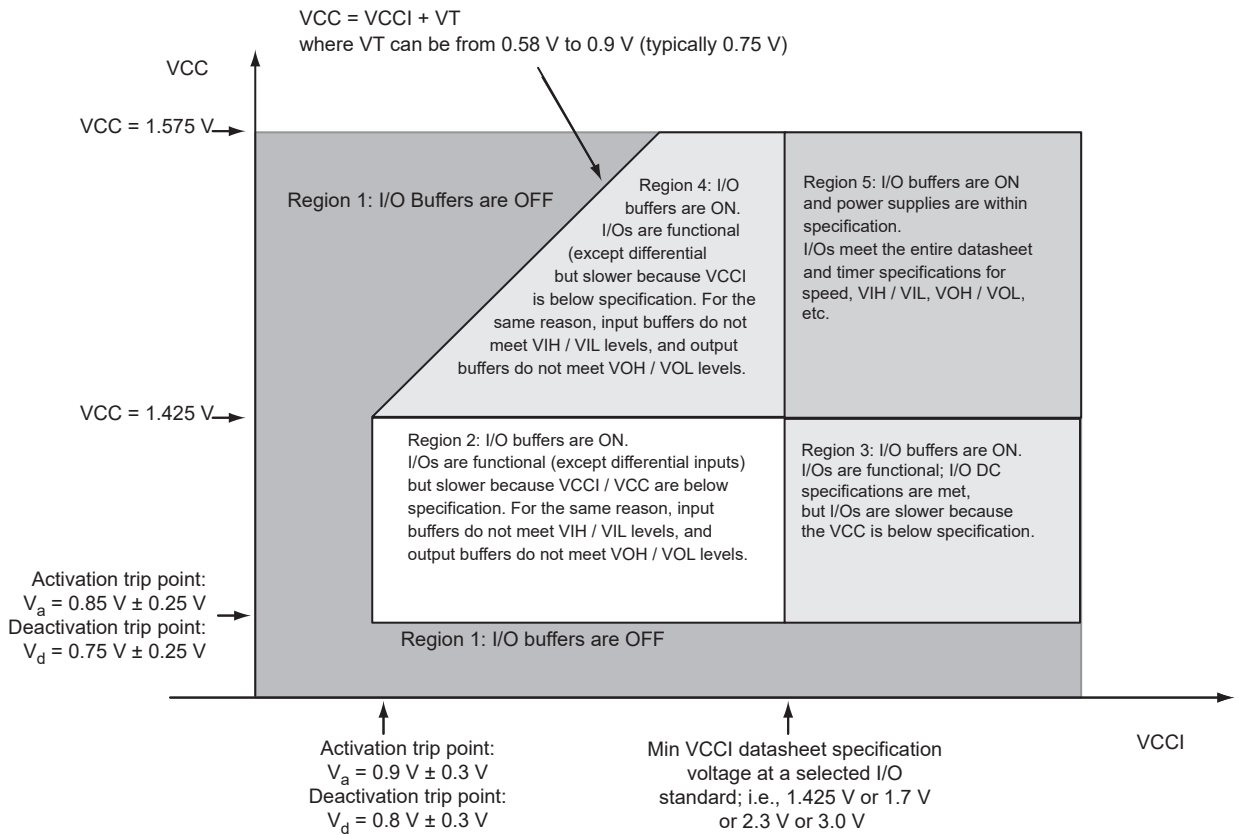

Figure 2-1 • I/O State as a Function of VCCI and VCC Voltage Levels
Sophisticated power-up management circuitry is designed into every ProASIC[®]3E device. These circuits ensure easy transition from the powered-off state to the powered-up state of the device. The many different supplies can power up in any sequence with minimized current spikes or surges. In addition, the I/O will be in a known state through the power-up sequence. The basic principle is shown in Figure 2-1 on page 2-4.
1. VCC and VCCI are above the minimum specified trip points (Figure 2-1 on page 2-4).
Microsemi recommends using monotonic power supplies or voltage regulators to ensure proper power-up behavior. Power ramp-up should be monotonic at least until VCC and VCCPLXL exceed brownout activation levels. The VCC activation level is specified as 1.1 V worst-case (see Figure 2-1 on page 2-4 for more details).